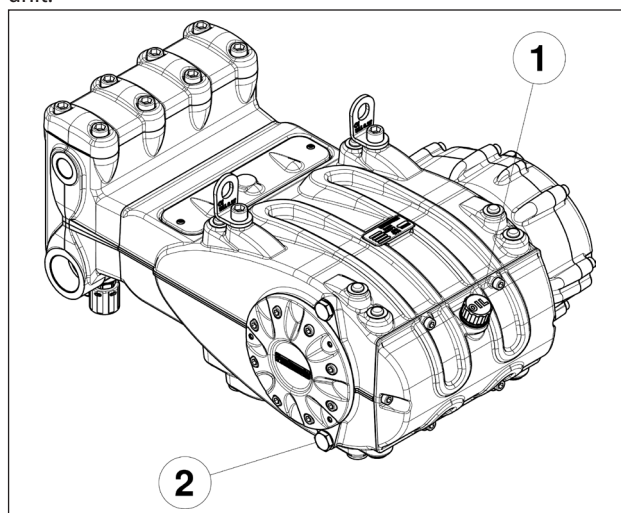

Fig. 3
Check the oil level via the plug with the oil dipstick that has minimum and maximum marks ①, Fig. 3. Top up to restore the level if necessary.
The oil should be changed with the pump at working temperature by removing the plug pos. ②, Fig. 3.